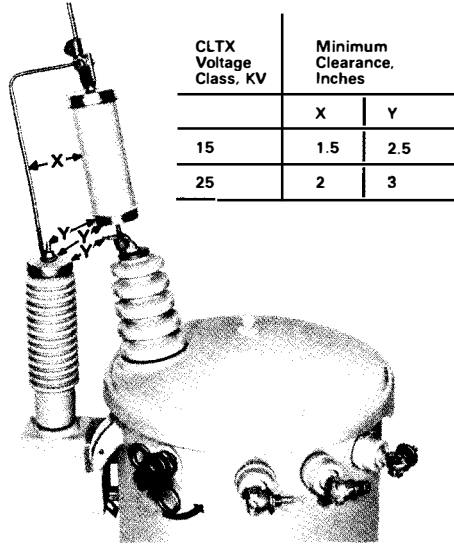

Figure 2. CLTX mounted on self-protected overhead distribution transformer
When using the CLTX to protect a self-protected overhead distribution transformer with a tank mounted surge arrester, Figure 2 indicates the clearances necessary to re-connect the surge arrester to the source side of the CLTX.
2. When protecting self-protected distribution transformers (CSP), the CLTX can be connected directly to the high voltage bushing terminal connector per Figure 2.